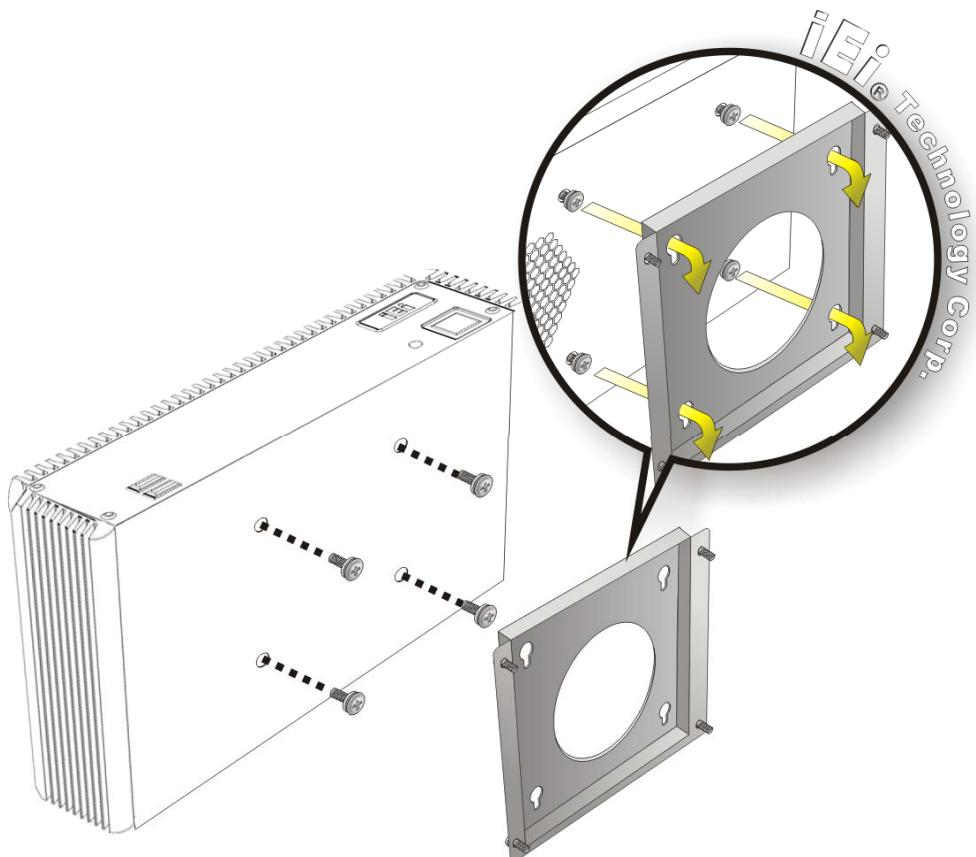

Figure 3-18: Mount the Embedded System
Step 6: Insert the four monitor mounting screws provided in the wall mounting kit into the four screw holes on the bottom panel of the system and tighten until the screw shank is secured against the bottom panel (**Figure 3-18**).
Step 8: Carefully insert the screws through the holes and gently pull the monitor downwards until the ECW-281B-D2550 rests securely in the slotted holes (**Figure 3-18**). Ensure that all four of the mounting screws fit snugly into their respective slotted holes.